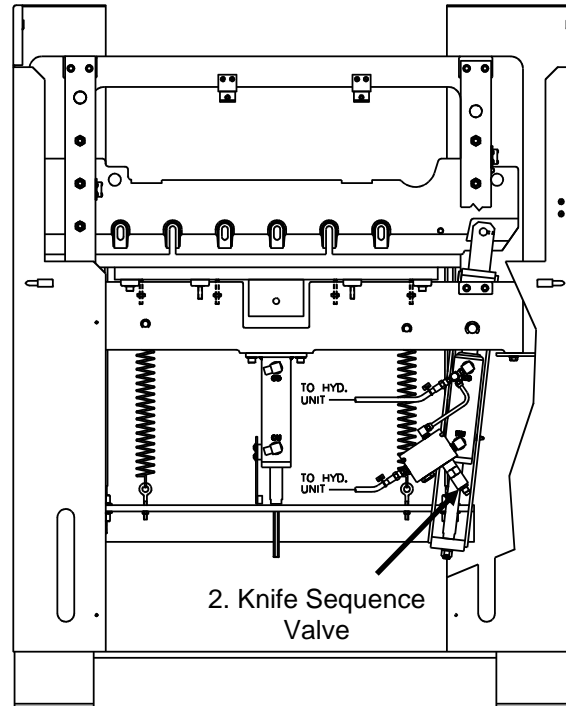

Figure 32
2. **KNIFE DOWN SEQUENCE PRESSURE:** Begin a cut cycle and read the knife sequence pressure from the main system gauge as the knife is traveling down (after the clamp reaches the table). The pressure should read 1,200 psi. If necessary, adjust the knife sequence valve (Figure 32) to obtain the proper reading.